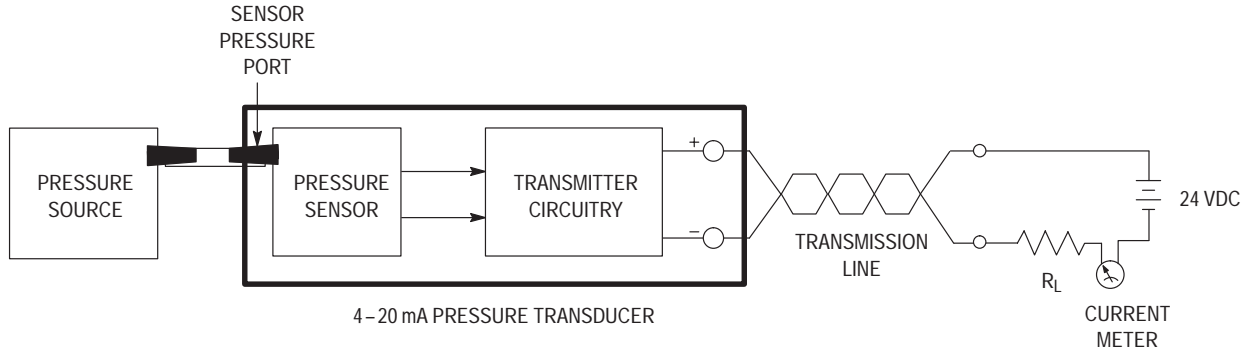

Figure 2. System Block Diagram
Figure 2 is a block diagram of a typical 4–20 mA current loop system which illustrates a simple two chip solution to converting pressure to a 4–20 mA signal. This system is designed to be powered with a 24 Vdc supply. Pressure is converted to a differential voltage by the Motorola MPX2100 pressure sensor. The voltage signal proportional to the monitored pressure is then converted to the 4–20 mA current signal with the Burr-Brown XTR101 Precision Two-Wire Transmitter. The current signal can be monitored by a meter in series with the supply or by measuring the voltage drop across  $R_L$ . A key advantage to this system is that circuit performance is not affected by a long transmission line.
1. Connect the evaluation board as shown in the block diagram of Figure 2.